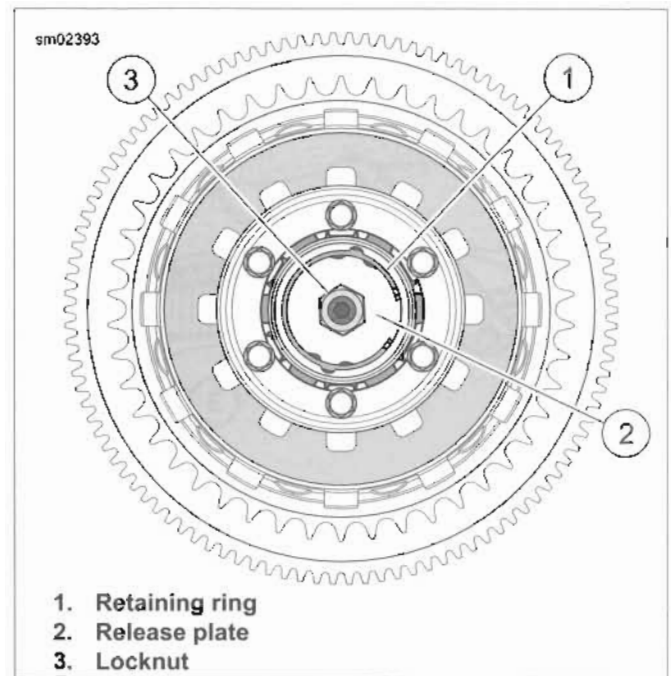

Figure 5-14. Clutch
13. See Figure 5-14. Install release plate (2) with locknut (3) and adjuster screw into clutch hub bore. The word "OUT" stamped on the release plate should face outward.